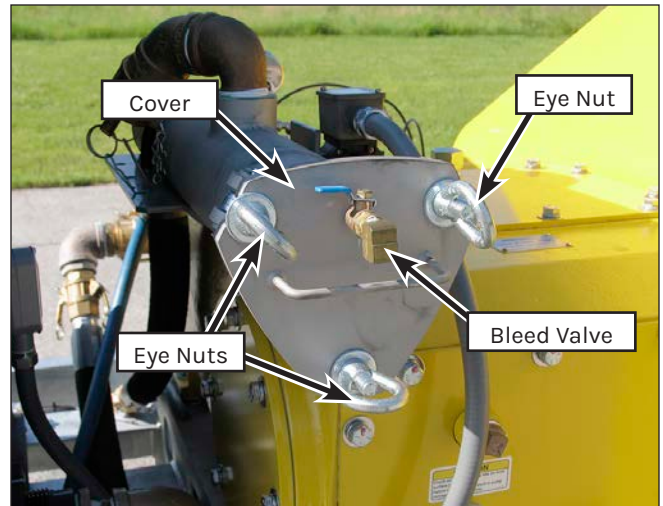

Figure 55: Filter Cover.
1. Relieve pressure from the housing using the bleed valve then loosen the three eye-nuts (Figure 55) on the filter cover.